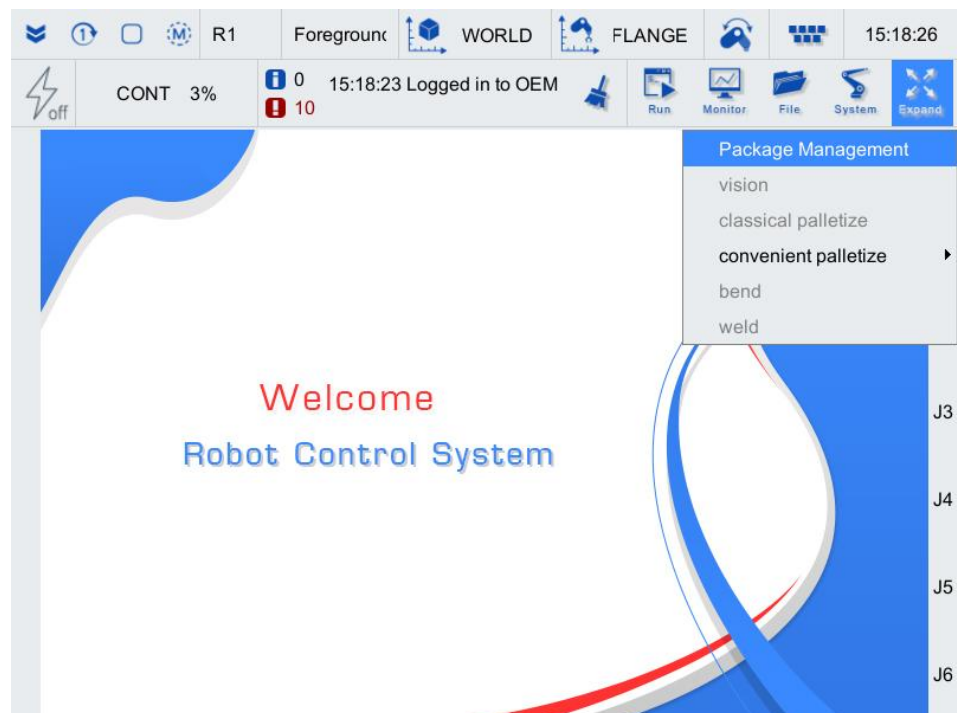

Figure 2-7 Package management list
Step1. Click [Extend] to pop up the drop-down list as shown in Figure 2-7.